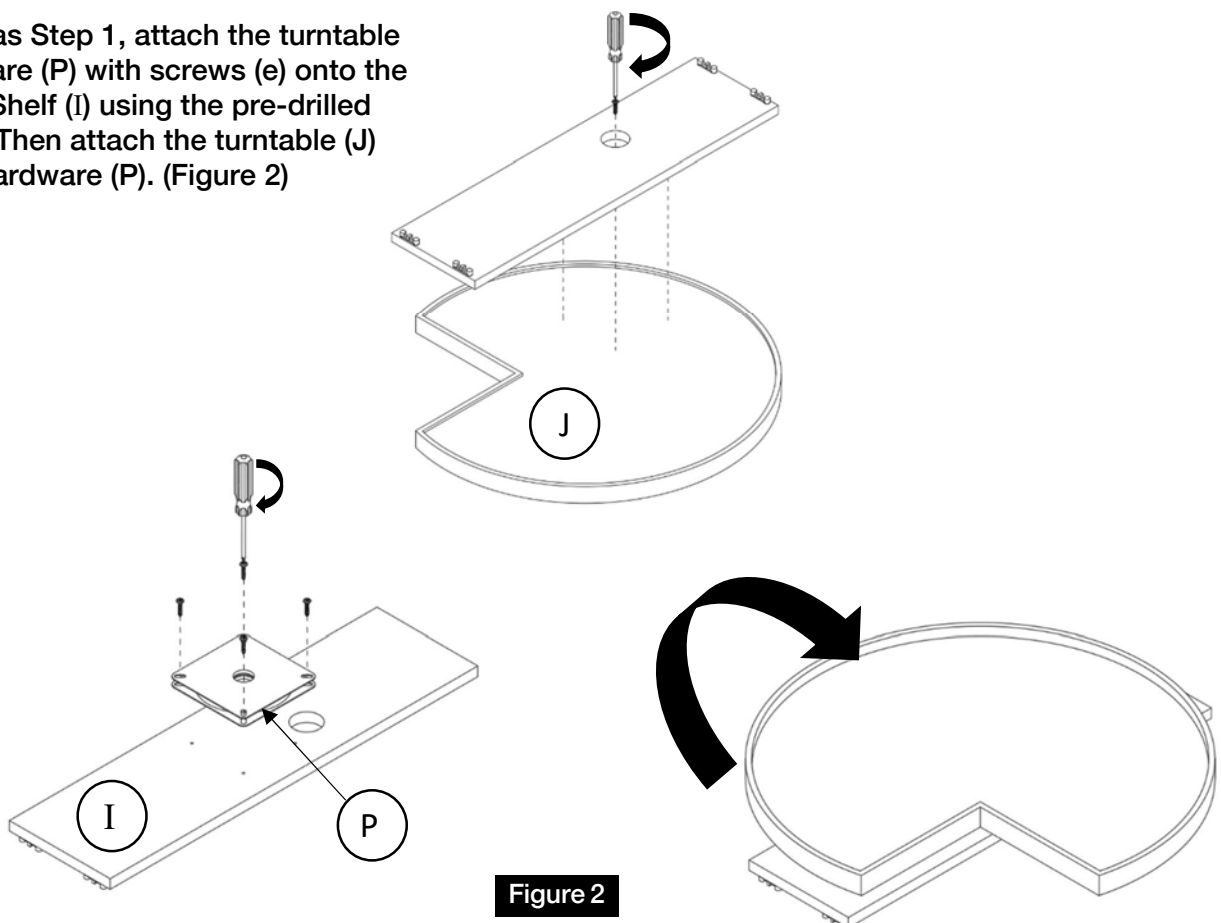

Figure 2
Same as Step 1, attach the turntable hardware (P) with screws (e) onto the Fixed Shelf (I) using the pre-drilled holes. Then attach the turntable (J) onto hardware (P). (Figure 2)